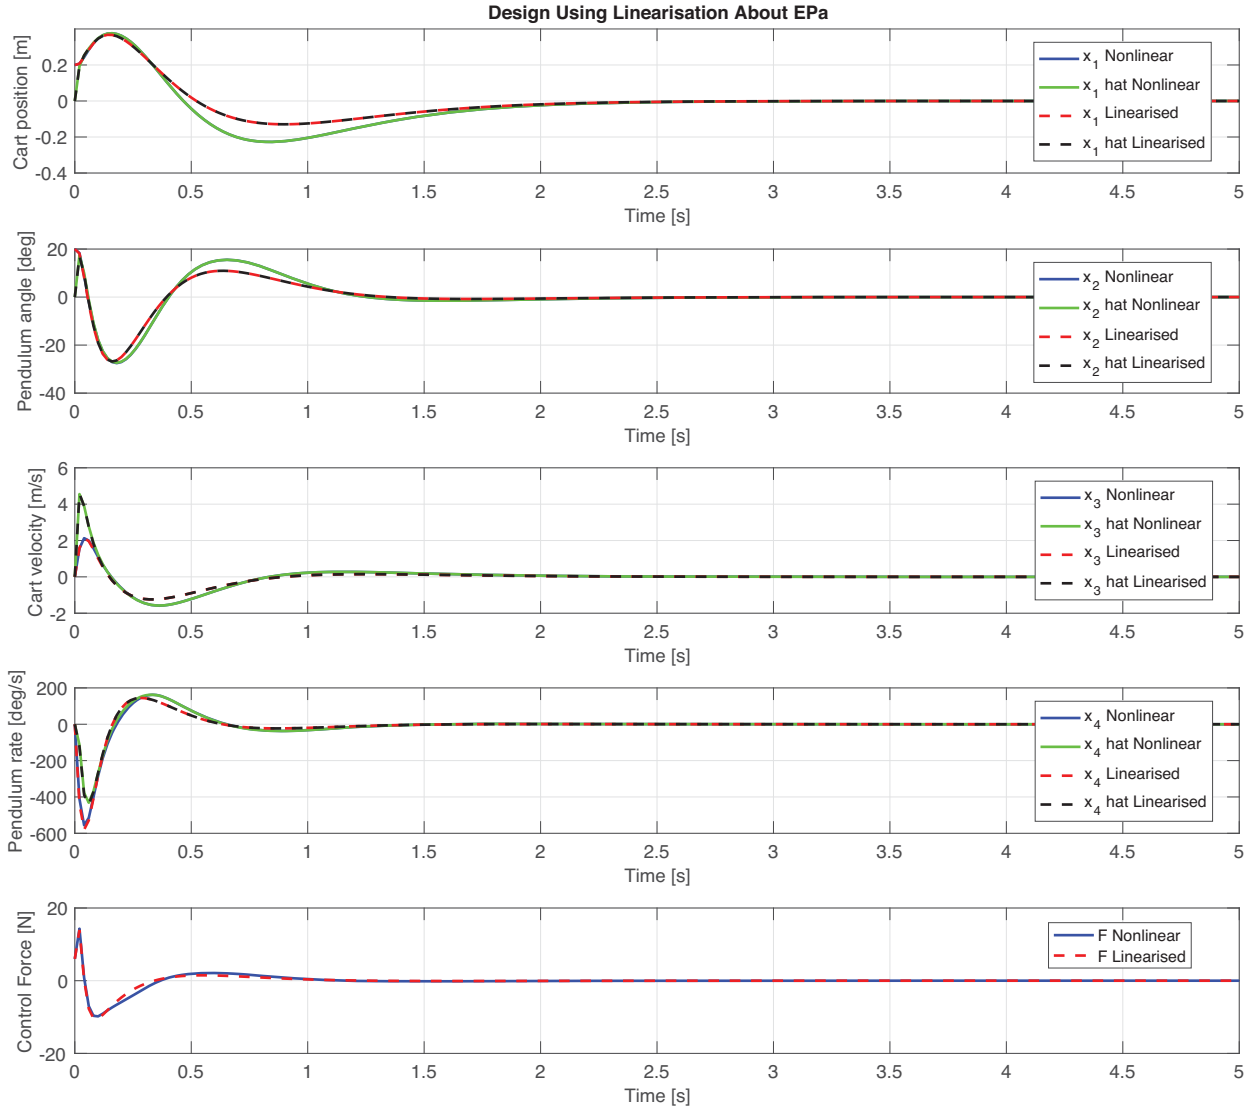

Figure 4: Time histories of the system states, the state estimations and control force.
**Demonstration:** You will be required to **run two scripts** created from this lab. These scripts are listed below and should automatically produce Figures 4 and 5 from this lab.
★ ★ **Optional:** In addition to completing the tasks outlined in Section 1, consider building a new system outlined in **Section 2** of this computer lab. Create **two additional scripts** listed below to automatically produce equivalent figures to those shown in Figures 4 and 5 for the new system. Adequate demonstration of this system may receive an additional 10% for the assessment item. You cannot receive a total score for the demonstration greater than 100%.
- g) Plot the results of the simulations in a figure that shows the time histories of the position of the cart, the angle of the pendulum, the velocity of the cart, the angular velocity of the pendulum, the estimation of the states and the control force for both the linearised and nonlinear control systems. An example of the simulation results is shown in Figure 4.